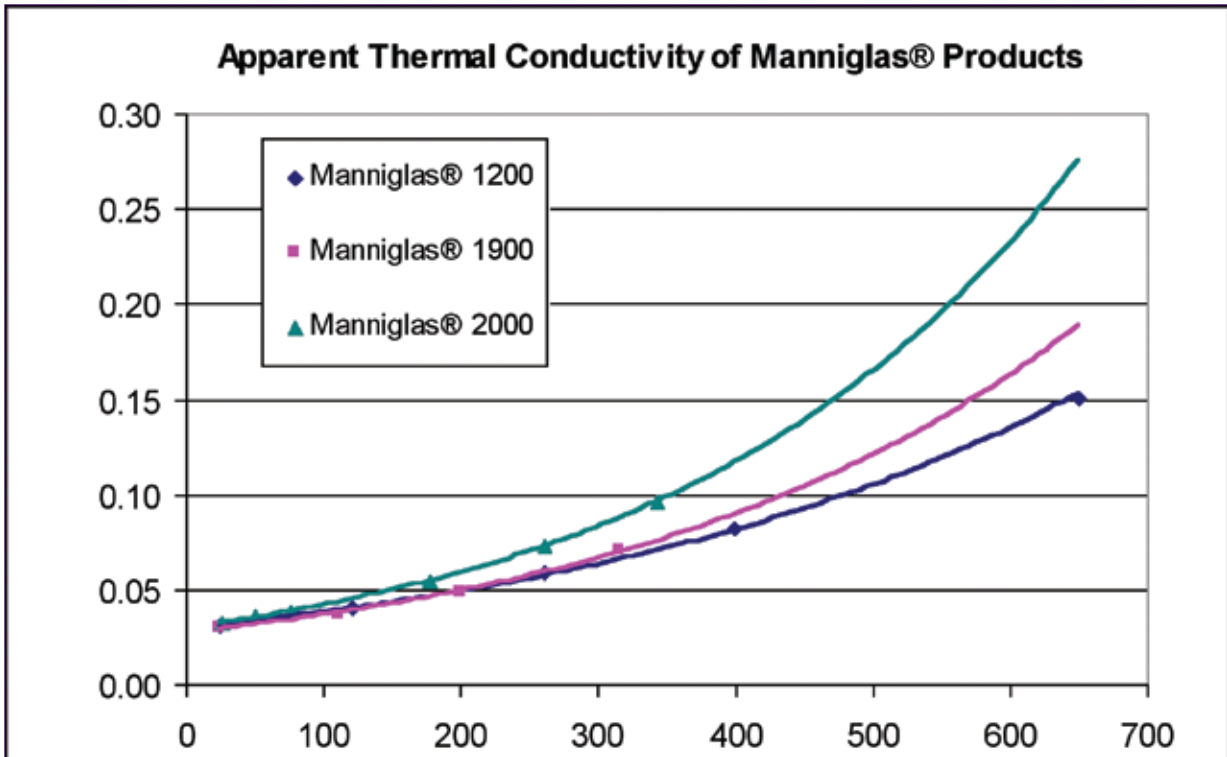

Figure 2: Impact of fiber diameter on the k-value of Lydall Manniglas® products.
**So what affects the k-value of a material?** Insulations work by holding air still and blocking infrared heat transfer. Physical properties such as fiber diameter, density, and product uniformity – which are often overlooked – will impact k-value, hence thermal performance of an appliance. Figure 2 illustrates the extent to which fiber diameter can impact k-value.